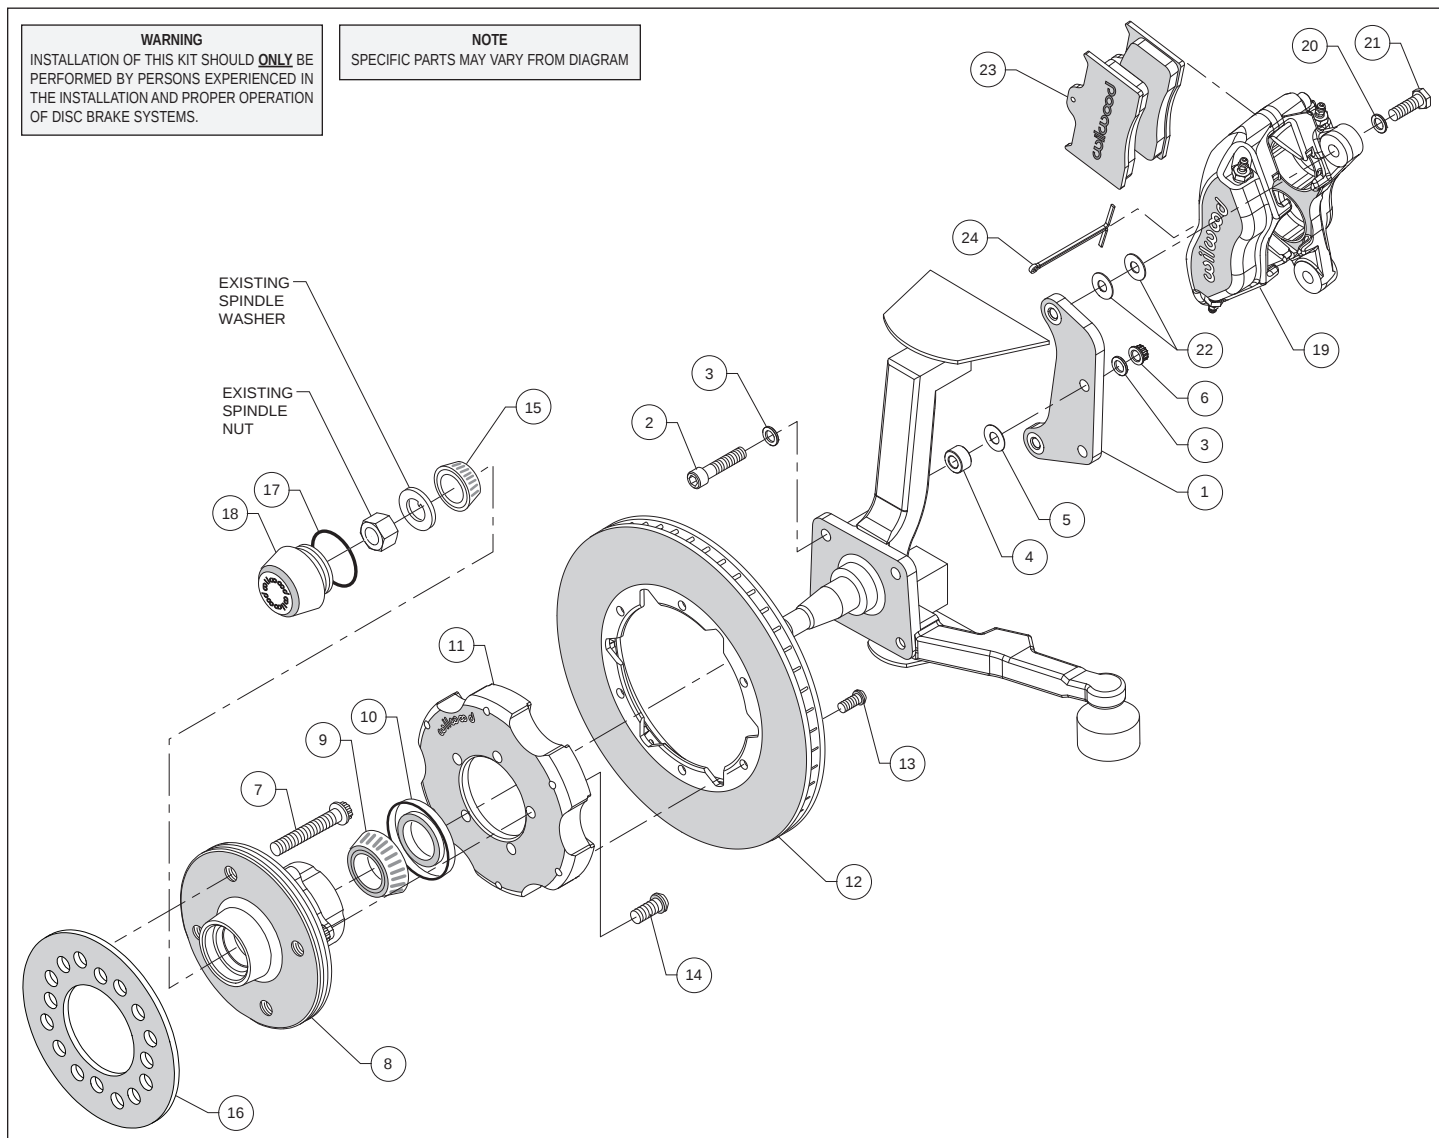
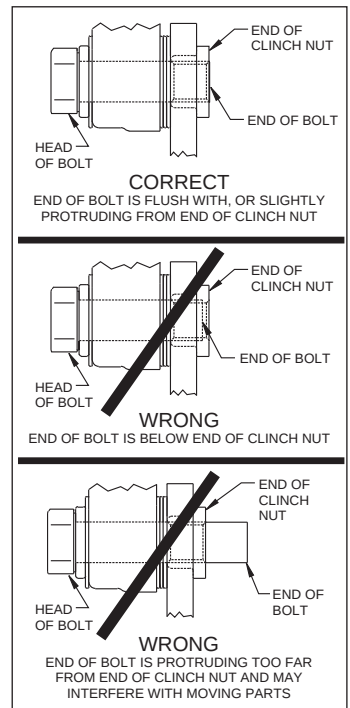

Figure 1. Typical Installation Configuration
Figure 3. Clinch Nut Engagement Diagram
Assembly Instructions (numbers in parenthesis refer to the parts list, on the preceding page and Figure 1): **CAUTION:** All mounting bolts must fully engage clinch nuts. Be sure to check that all bolts are either flush or protruding through flanged side of clinch nut after shimming, Figure 3.
- The caliper mount bracket (1) should initially be installed with clean, dry threads on the mounting bolts. Orient the bracket as shown in Figure 1 and Photo 1, and install using bolts (2), washers (3) and nuts (6). Place one spacer (4) and one shim (5) between the spindle to start, Figure 1. Ensure that the flanged heads of the clinch nuts in the bracket are facing outboard, Photo 1. Temporarily tighten the mounting nuts. **NOTE:** The bracket must fit squarely against the mounting points on the spindle. Inspect for interference from casting irregularities, machining ridges, burrs, etc.
- Check that the bracket is aligned parallel to the rotor by assembling and installing hub/rotor per steps below, Photo 2. If not, add or subtract shims (5) between spacer and bracket, Figure 1.
- Mount the hat (11) to the hub (8) using bolts (14), as shown in Figure 1 and Photo 6. Using an alternating sequence, apply red Loctite® 271 to the threads, and torque to 55 ft-lb.
- Orient the rotor (12) and the hat/hub assembly (8/11) as shown in Figure 1 and Photo 7. Attach the rotor to the hat using bolts (13). Using an alternating sequence, apply red *Loctite*® 271 to the threads, and torque to 25 ft-lb.
- NOTE:** Please reference the caution statement at the beginning of the assembly instructions. Mount the caliper (19) onto the caliper mounting bracket (1) using bolts (21) and washers (20), as shown in Figure 1. Initially place two .035" thick shims (22) on each bolt between the caliper and the bracket, Photo 10. Temporarily tighten the mounting bolts and view the rotor (12) through the top opening of the caliper. The rotor should be centered in the caliper, Photo 11. If not, adjust by adding or subtracting shims between the bracket and the caliper. Always use the same amount of shims on each of the two mounting bolts. **NOTE:** The end of each bolt must be flush with or slightly protruding from the head of the clinch nut, as shown in Figure 3. If necessary place spare shims between washer (20) and caliper mounting ear to achieve the proper clinch nut engagement. Once the caliper alignment and clinch nut engagement are correct, remove the bolts one at a time, apply red *Loctite*® 271 to bolt threads, and torque to 40 ft-lb.
- Install wheel spacer (25) as shown in Figure 1 and Photo 13. Temporarily install wheel and torque lug nuts to manufacturer's specification. Ensure that the wheel rotates freely without any interference. **NOTE:** Wheel spacer (25) MUST be used if any wheel contact surfaces overhang the outside diameter of the hub face. See warning on page 3.